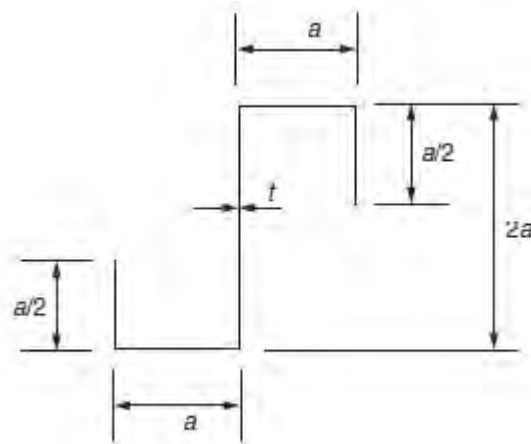

Figure 2:
2. A thin-walled cantilever beam of length L has the cross-section shown in Figure 2 and carries a load P positioned as shown at its free end. Determine the torsion bending constant for the beam section and derive an expression for the angle of twist θ_T at the free end of the beam. Calculate the value of this angle for $P=100$ N, $a=30$ mm, $L=1000$ mm, $t=2.0$ mm, $E=70\,000$ N/mm² and $G=25\,000$ N/mm². [16]